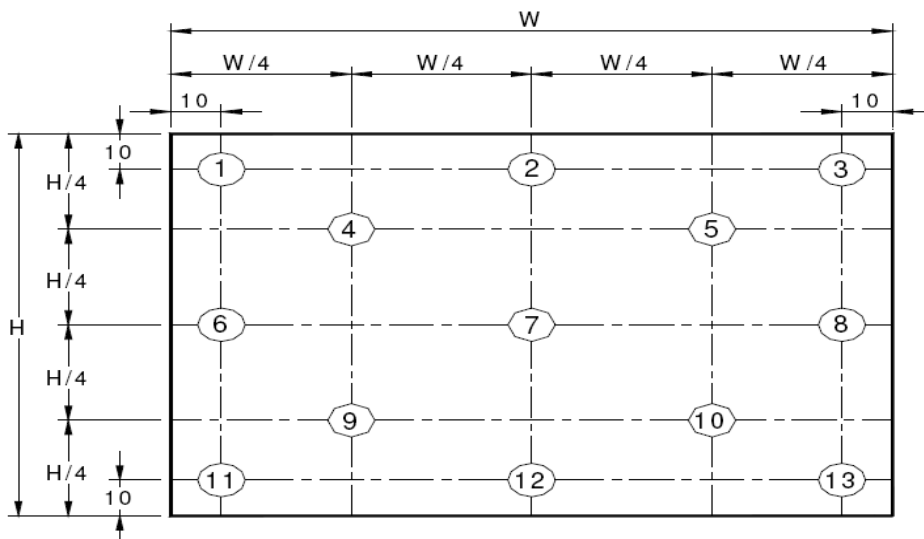

Figure 9. Uniformity Measurement Locations (13 points)
4. The White luminance uniformity on LCD surface is then expressed as :  $\Delta Y = \text{Minimum Luminance of 5(or 13) points} / \text{Maximum Luminance of 5(or 13) points.}$ (see Figure 8 and Figure 9).
The White luminance uniformity on LCD surface is then expressed as :  $\Delta Y5 = \text{Minimum Luminance of five points} / \text{Maximum Luminance of five points}$  (see Figure 8) ,  $\Delta Y13 = \text{Minimum Luminance of 13 points} / \text{Maximum Luminance of 13 points}$  (see Figure 9).